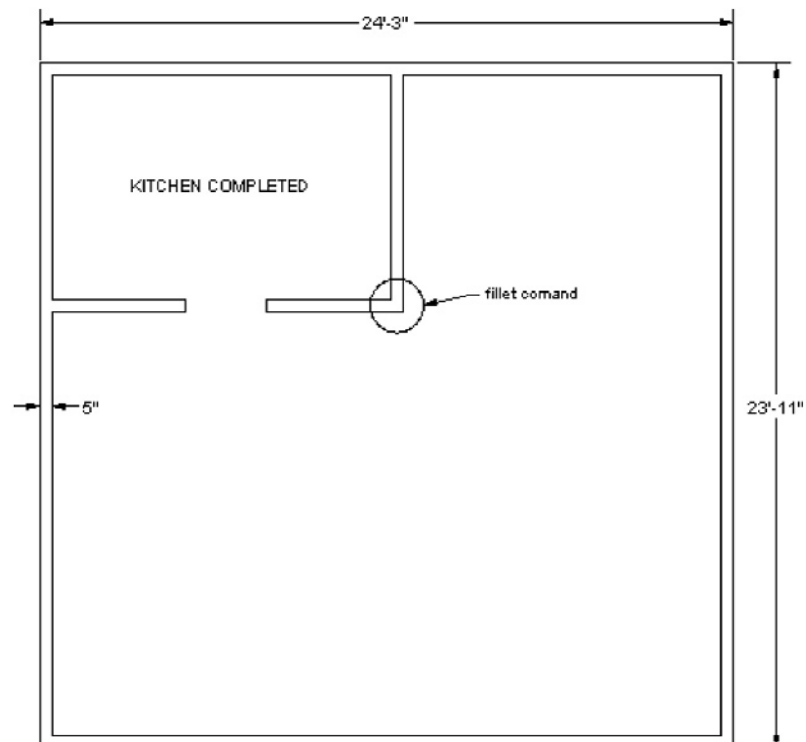

Figure 3.14 – Floor Plan, Step 11
- 11) Trim out the extra line where each inner wall meets the main wall. Figure 3.14 shows you what you should see so far (be sure to ask your instructor if something isn't working out).